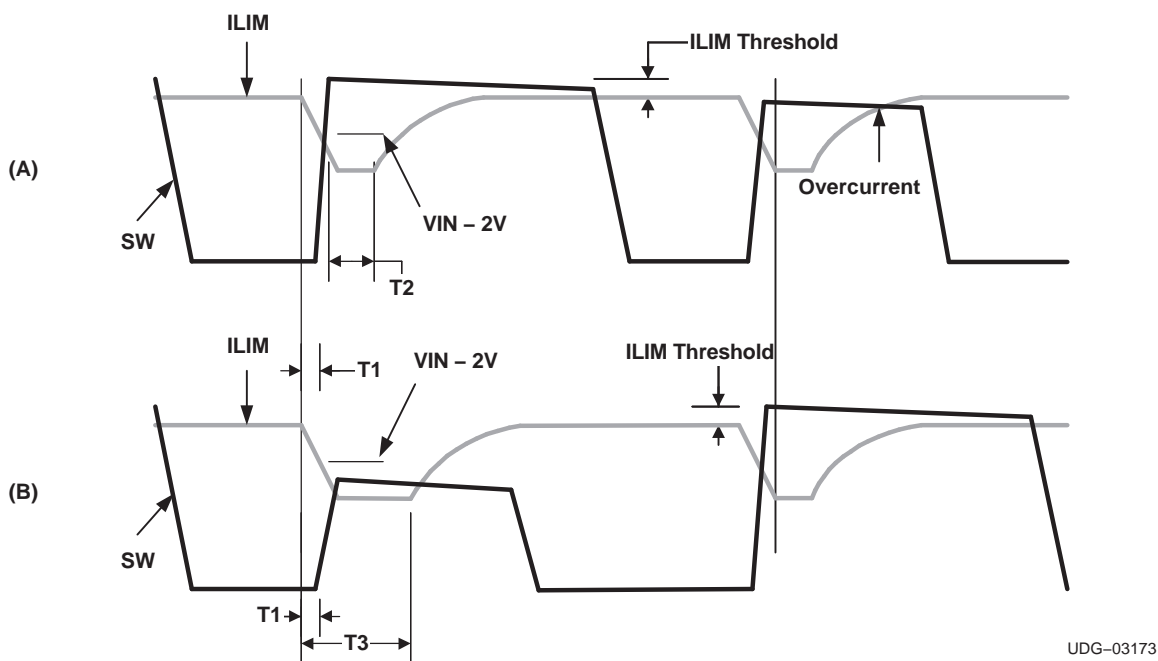

Figure 26. Switching and Current-Limit Waveforms and Timing Relationship
The TPS40077 uses a two-tier approach for short-circuit protection. The first tier is a pulse-by-pulse protection scheme. Short-circuit protection is implemented on the high-side MOSFET by sensing the voltage drop across the MOSFET when its gate is driven high. The MOSFET voltage is compared to the voltage dropped across a resistor (R_{ILIM}) connected from V_{VDD} to the ILIM pin when driven by a constant-current sink. If the voltage drop across the MOSFET exceeds the voltage drop across the ILIM resistor, the switching pulse is immediately terminated. The MOSFET remains off until the next switching cycle is initiated. This is illustrated in Figure 26.
In addition, just prior to the high-side MOSFET turning on, the ILIM pin is pulled down to approximately half of V_{VDD} . The ILIM pin is allowed to return to its nominal value after one of two events occurs. If the SW node rises to within approximately 2 V of V_{VDD} , the device allows ILIM to go back to its nominal value. This is illustrated in Figure 26(A). T1 is the delay time from the internal PWM signal being asserted and the rise of SW. This includes a driver delay of 50 ns, typical. T2 is the reaction time of the sensing circuit that allows ILIM to start to return to its nominal value, typically 20 ns. The second event that can cause ILIM to return to its nominal value is for an internal timeout to expire. This is illustrated in Figure 26(B) as T3. Here SW never rises to $V_{VDD} - 2$ V, for whatever reason, and the internal timer times out, releasing the ILIM pin.